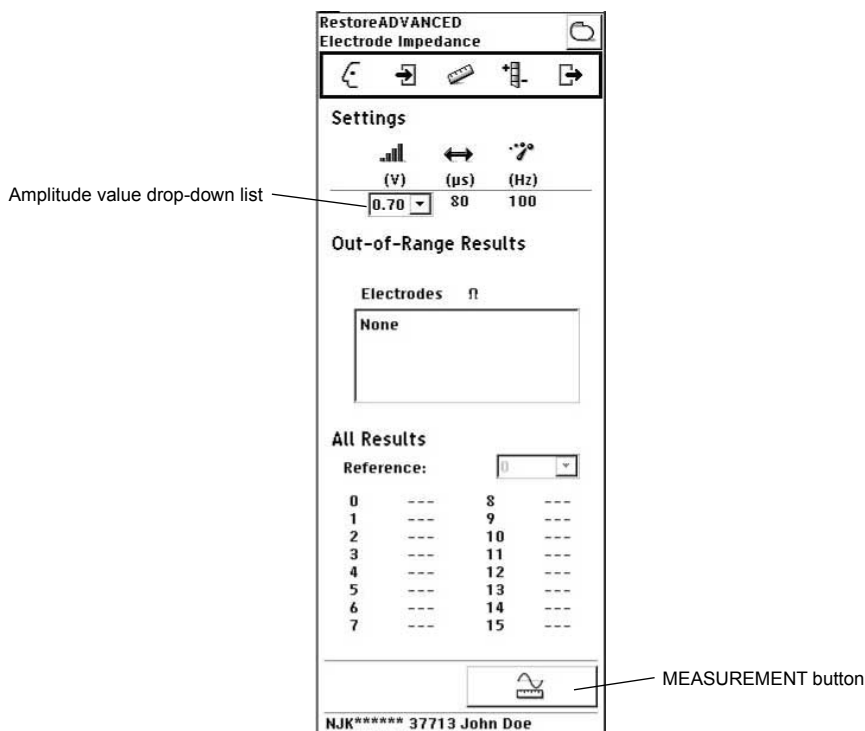

Figure 21. ELECTRODE IMPEDANCE screen.
2. Select an amplitude value from the drop-down list (Figure 21).
4. Select the MEASUREMENT button (Figure 21).